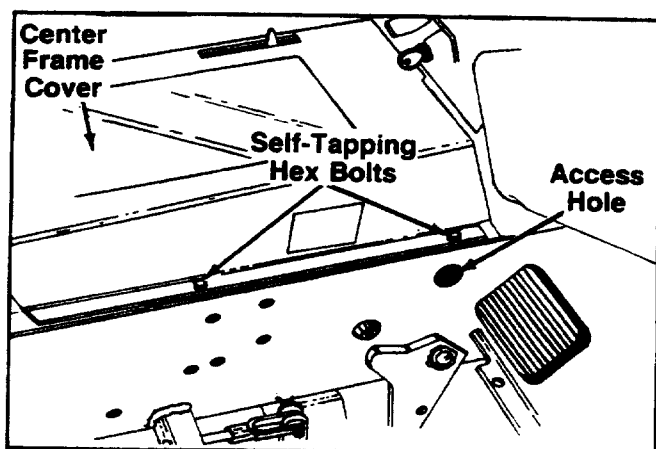

FIGURE 7.
1. Lower the tractor lift to full down position. Check access hole to make sure headed pin $1/2 \times 1.50$ " can be removed in step 30. See figure 7.
13. Remove the four self-tapping hex bolts holding the center frame cover. See figure 7.